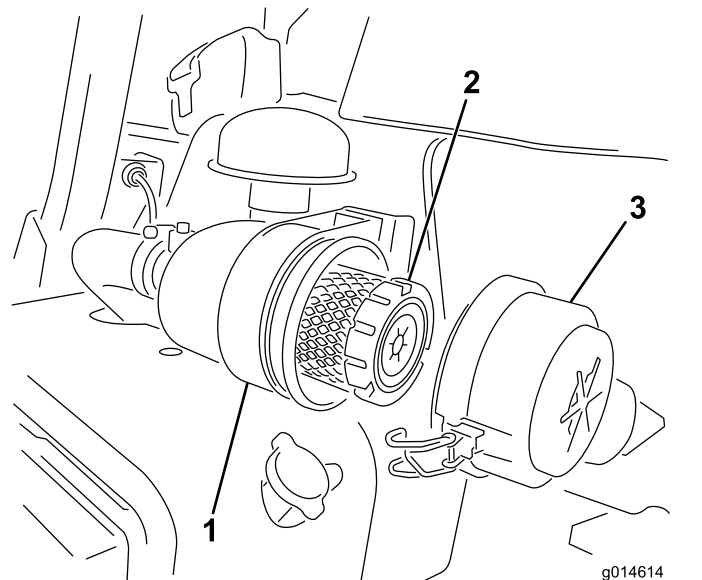

Figure 29
1. Release the latches securing the air-cleaner cover to the air-cleaner body (Figure 29).
7. Secure the latches (Figure 29).